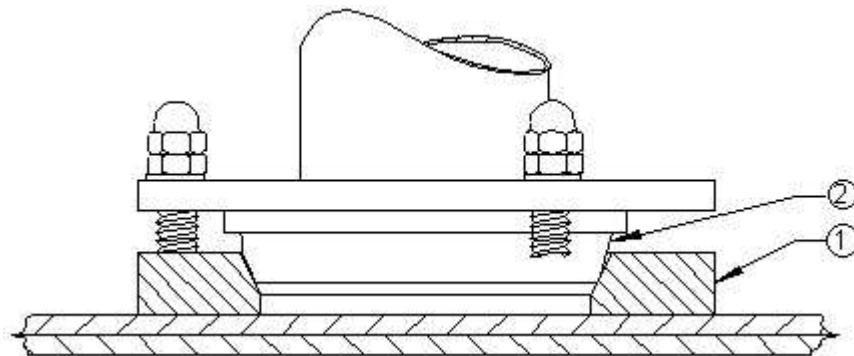

FIGURE 2.1
Be sure that the tapered side of the lower clamping ring (1) atop the housing mates with the half ball (2) on the candy cane. Feed the three studs at the top of the housing through the holes in the upper clamping ring, and secure with the three lockwashers and 1/4-20 nuts provided. DO NOT INSTALL NUTS OR WASHERS BETWEEN UPPER AND LOWER CLAMPING RINGS. (See Figure 2.1)